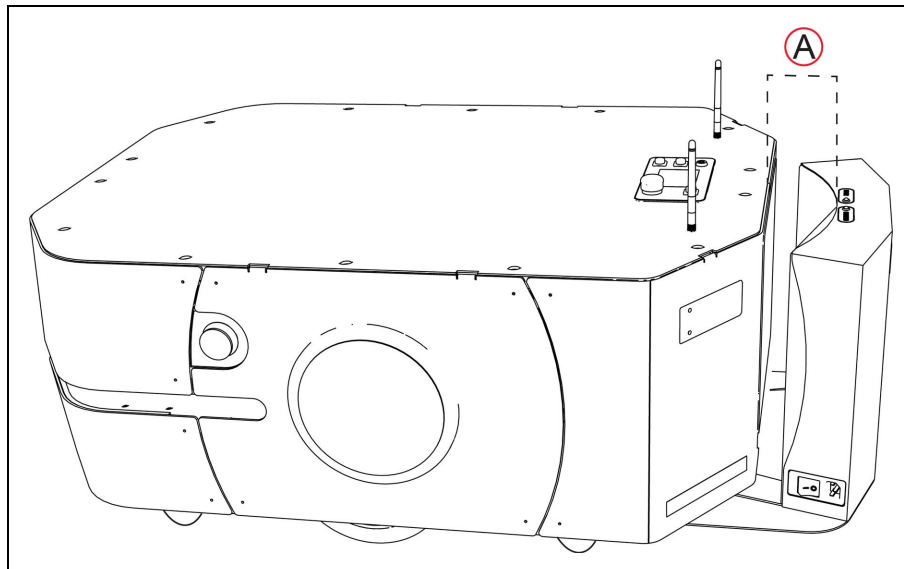

Figure 7-3 Approximate 50 mm (~2 inch) Gap Between the LD-250 and the Docking Station
Do not push the LD-250 too far back. It should remain approximately 50 mm (~2 inches) from the upright part of the docking station. See (A) in Figure 7-3.